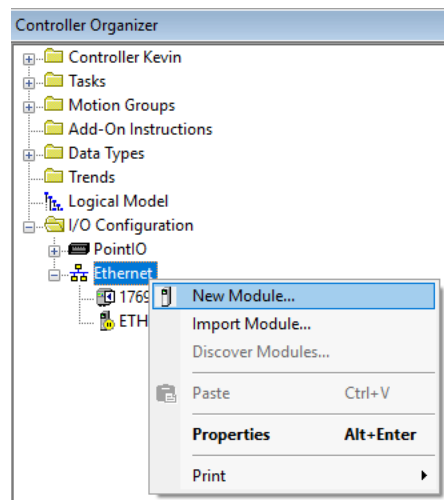

Figure 4 - Create New Ethernet-Module
2. Create a new VMP Ethernet module by right clicking on the **Ethernet** menu item displayed on the **Controller Organizer** window (Figure 4) and select **New Module...** which should display the **Select Module Type** window (Figure 5).
9. Create a new ETHERNET-MODULE by right clicking on the **Ethernet** menu item displayed on the **Controller Organizer** window (Figure 4) and select **New Module...** which should display the **Select Module Type** window (Figure 5).